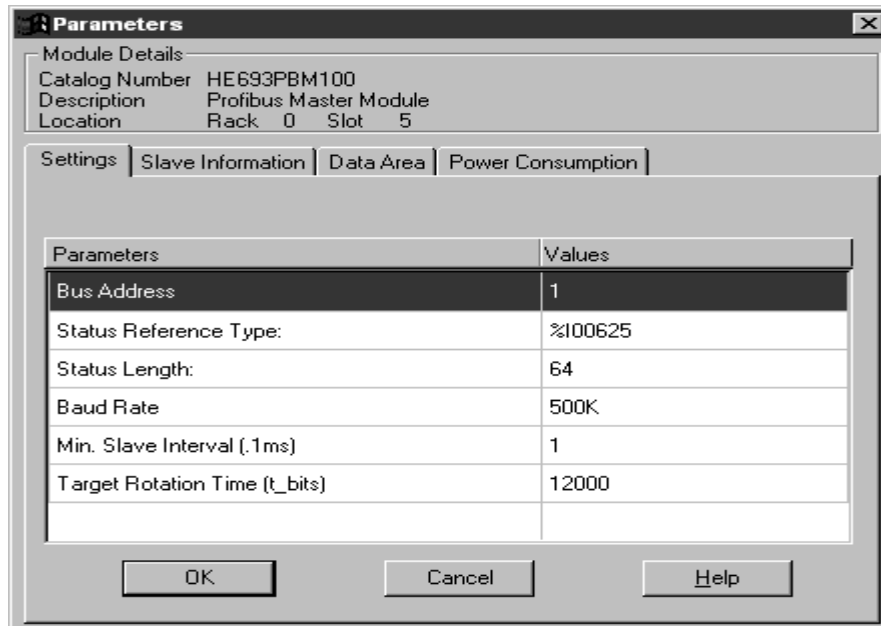

Figure 3.3
Step 6: Click on the "Bus Controller" tab and select HE693PBM100. The empty slot on the virtual PLC is replaced with the PBM module. The following screen appears (Fig. 3.3).